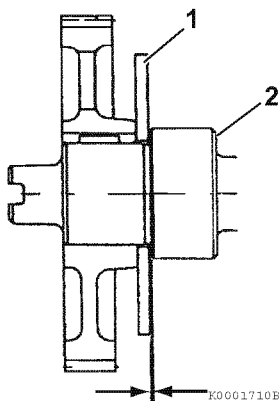

Figure 6-49
- **Method B:** Use a feeler gauge to measure the clearance between the thrust plate (**Figure 6-49, (1)**) and front camshaft bearing (**Figure 6-49, (2)**). See *Thrust Bearing* on page 6-7 for the service limit.